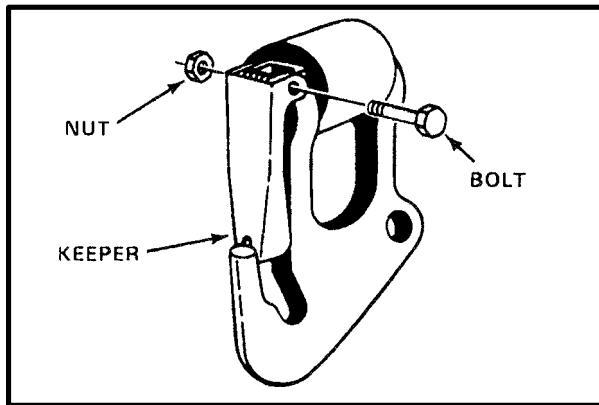

Figure 6-14. Removing Bolt and Nut from Grabhook
- (1) Using a pin punch and hammer, drive out the roll pin. If the roll pin has been replaced by a bolt and nut, unscrew the nut and remove the bolt (Figure 6-14).